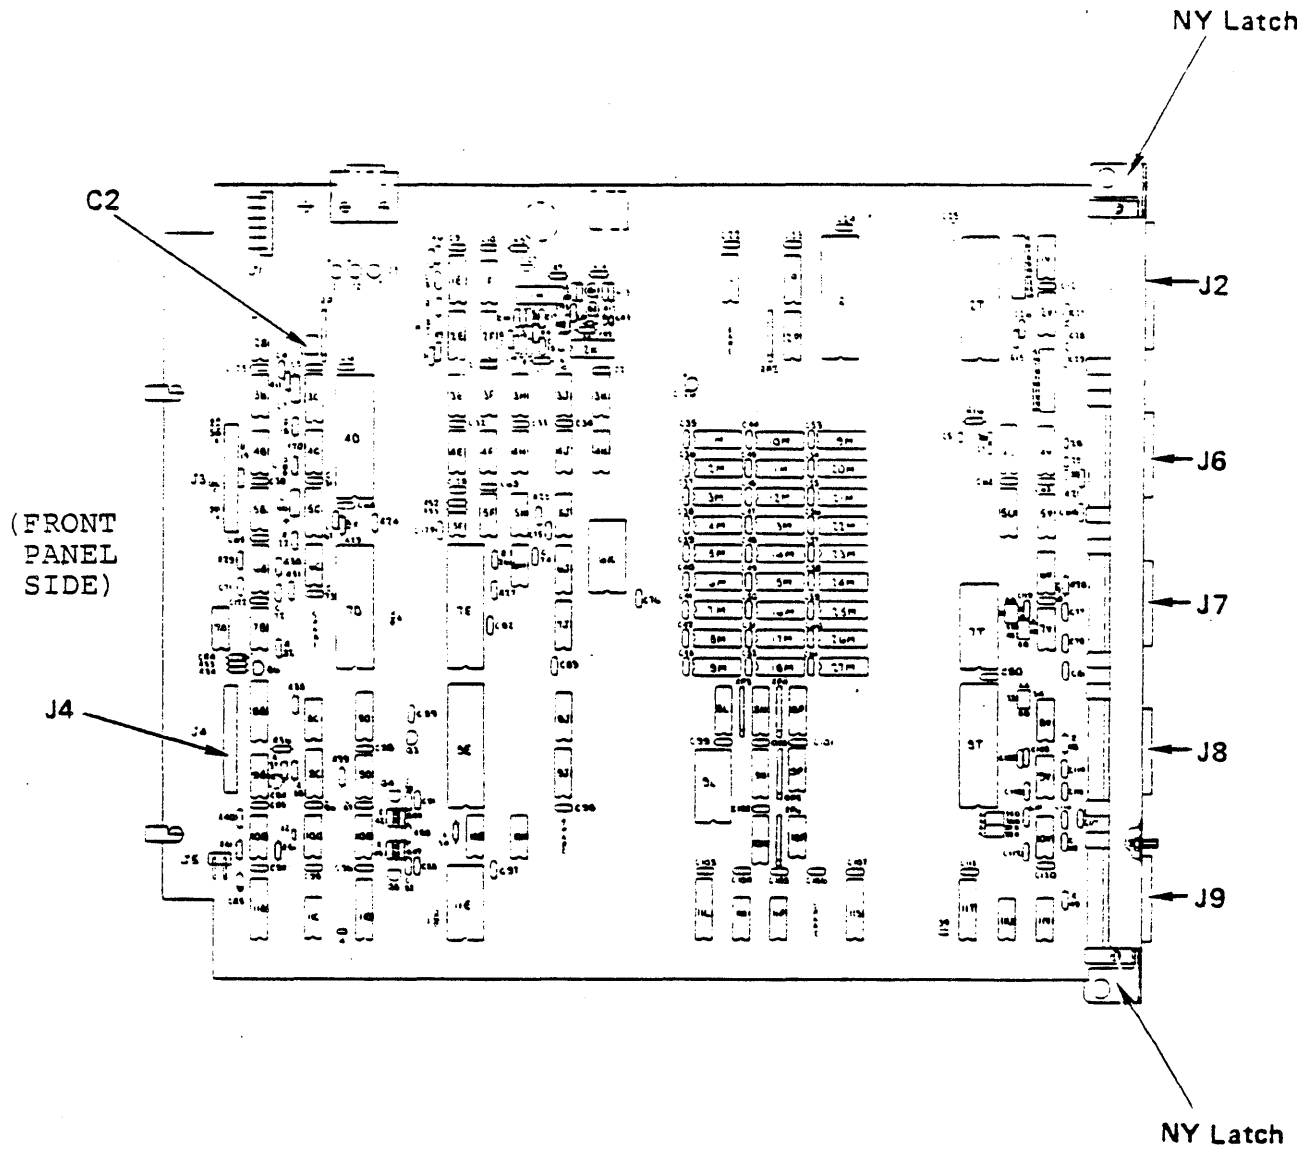

Figure 2. CPU Board Matrix Map
- Step 10. Release the two NY latches (Figure 2) holding the hinged PC board in place and lift up the PC board.
- Step 21. Install jumper (two-position shunt) provided in the number two position at C2 (Figure 2) on the CPU board.
Step 19. Install the jumper (two-position shunt) provided in the number three position at C2 (Figure 2) on the PC board.